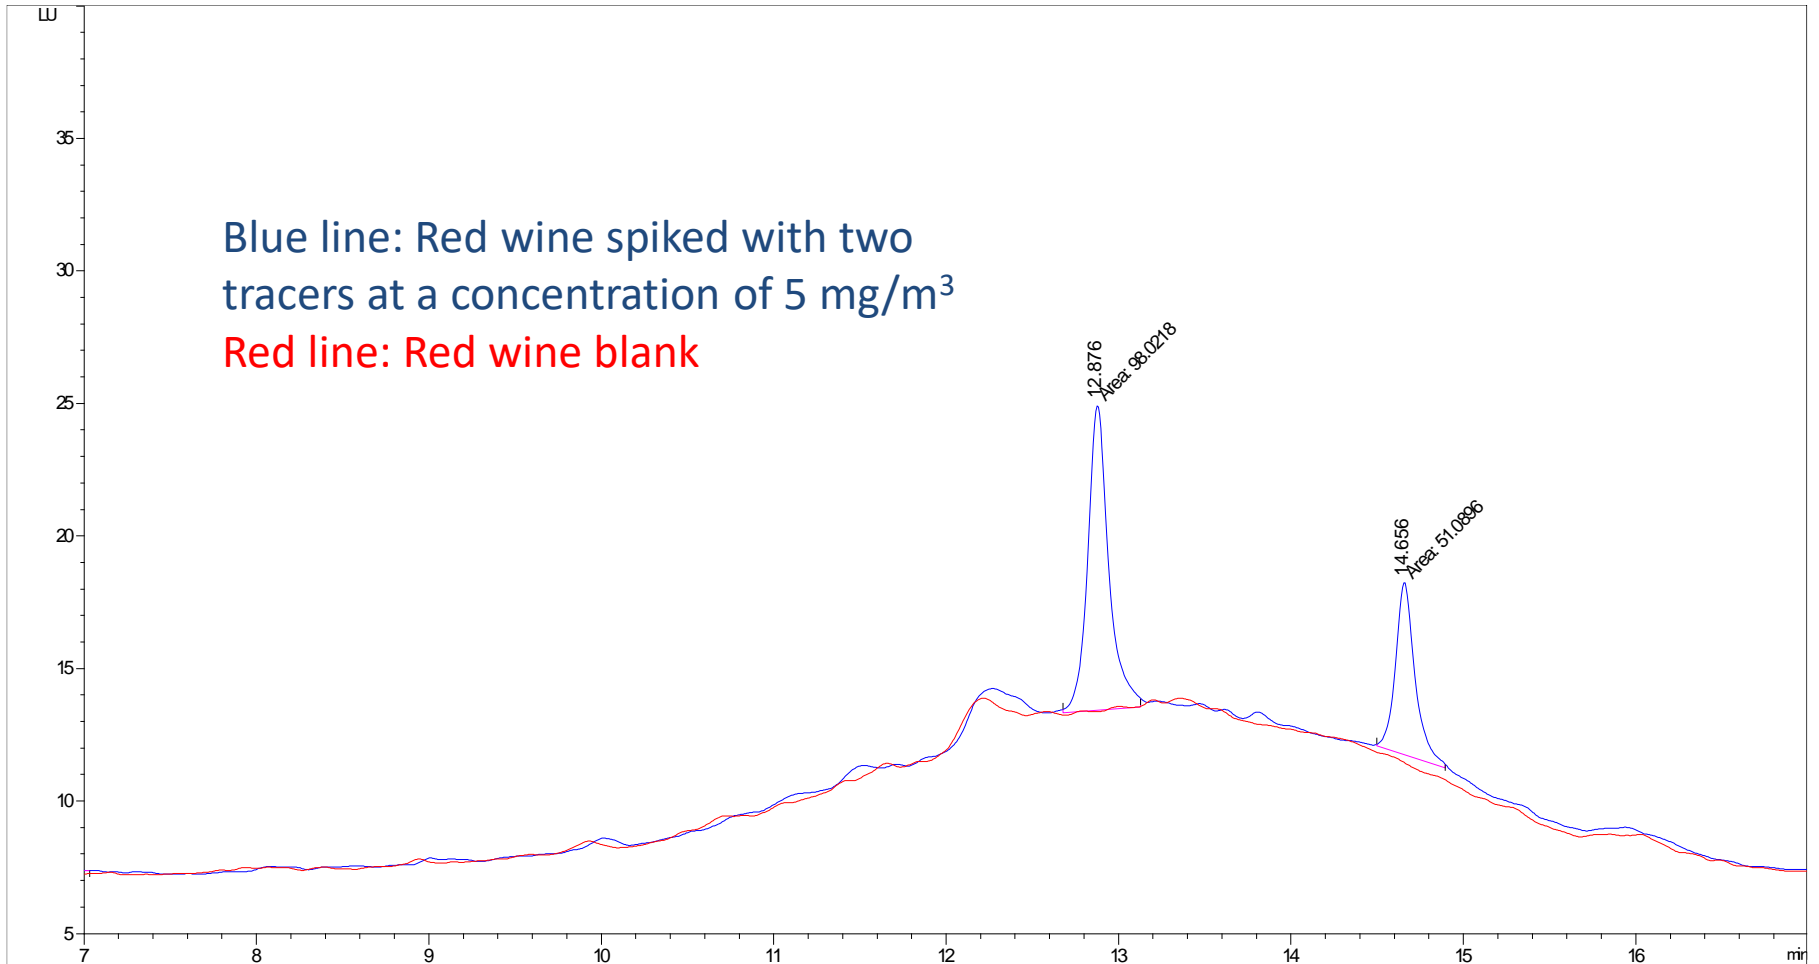

Figure 2
- Figure 2 shows a plot from analysis of two different tracers added to red wine at a concentration of 5 mg/m^3